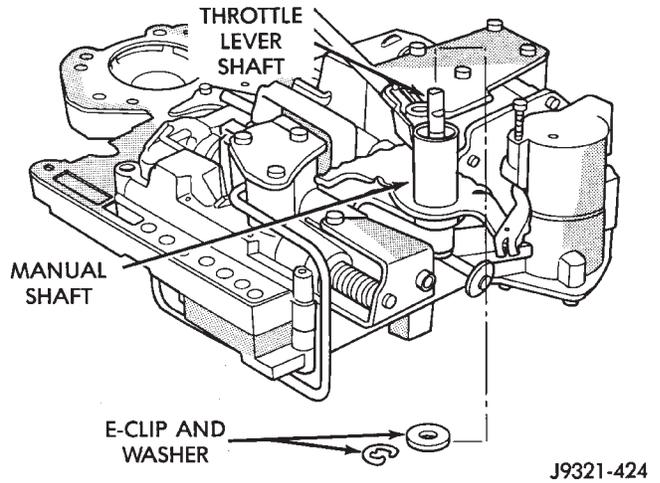

Fig. 73 Throttle Lever E-Clip And Washer
(16) Remove E-clip and washer that retains throttle lever shaft in manual lever (Fig. 73).